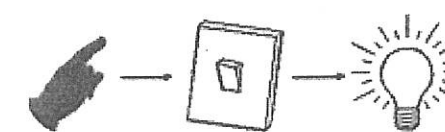

Figure B2a / Rajah B2a
- (a) An example of an open loop control system would be a light switch (Figure B2a). Explain the operations of the system above to show how it represents an open loop system.